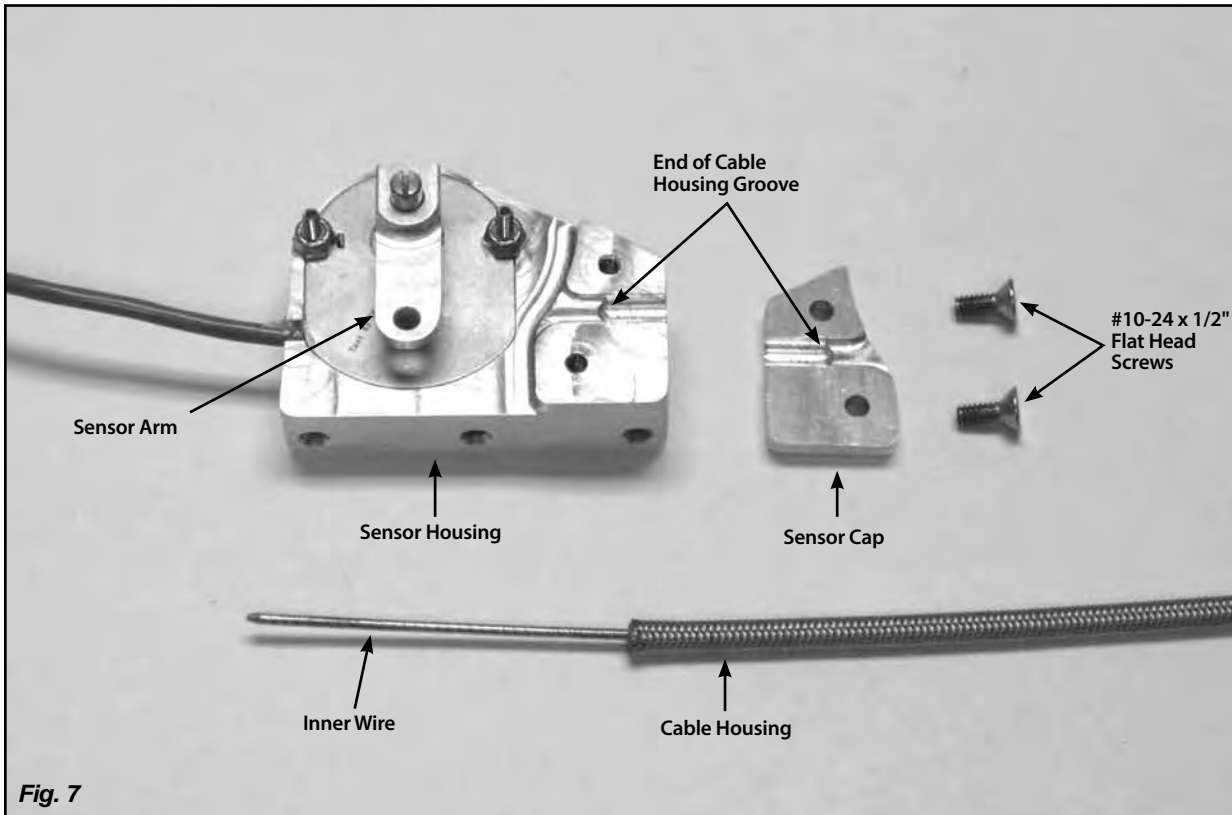
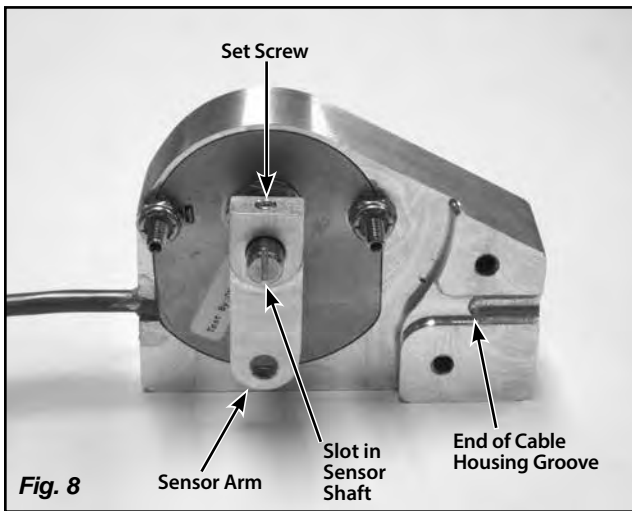

Fig. 7
Fig. 8
**Step 3:** Remove the sensor cap by removing the two #10-24 x 1/2" flat head screws using a 1/8" Allen wrench, and separate the cable housing from the sensor. Fig. 7
**Step 4:** Make sure the sensor arm is parallel to the slot in the sensor shaft, with the set screw in the top of the sensor arm aligned with the slot. If not, loosen the set screw in the top of the sensor arm using a 1/16" Allen wrench, and adjust the position of the sensor arm on the shaft. **Fig. 8**
There is a groove in the sensor housing that the end of the cable housing fits in to. Mark the cable housing at the end of the cable housing groove. Remove the cable housing from the adjustable cable mounting bracket. **Fig. 7 and Fig. 8**